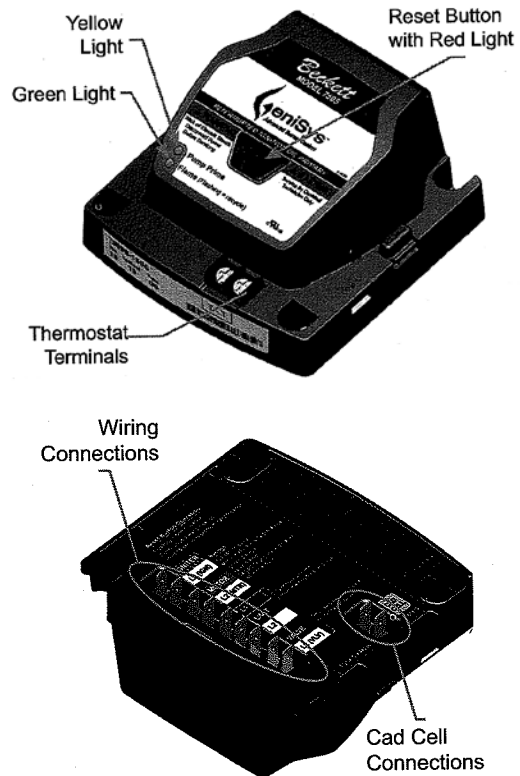

Figure 23: GeniSys 7505 Oil Primary Terminals, LED's and Reset Button
- a. **GeniSys 7505 Control Features**, see Figure 23